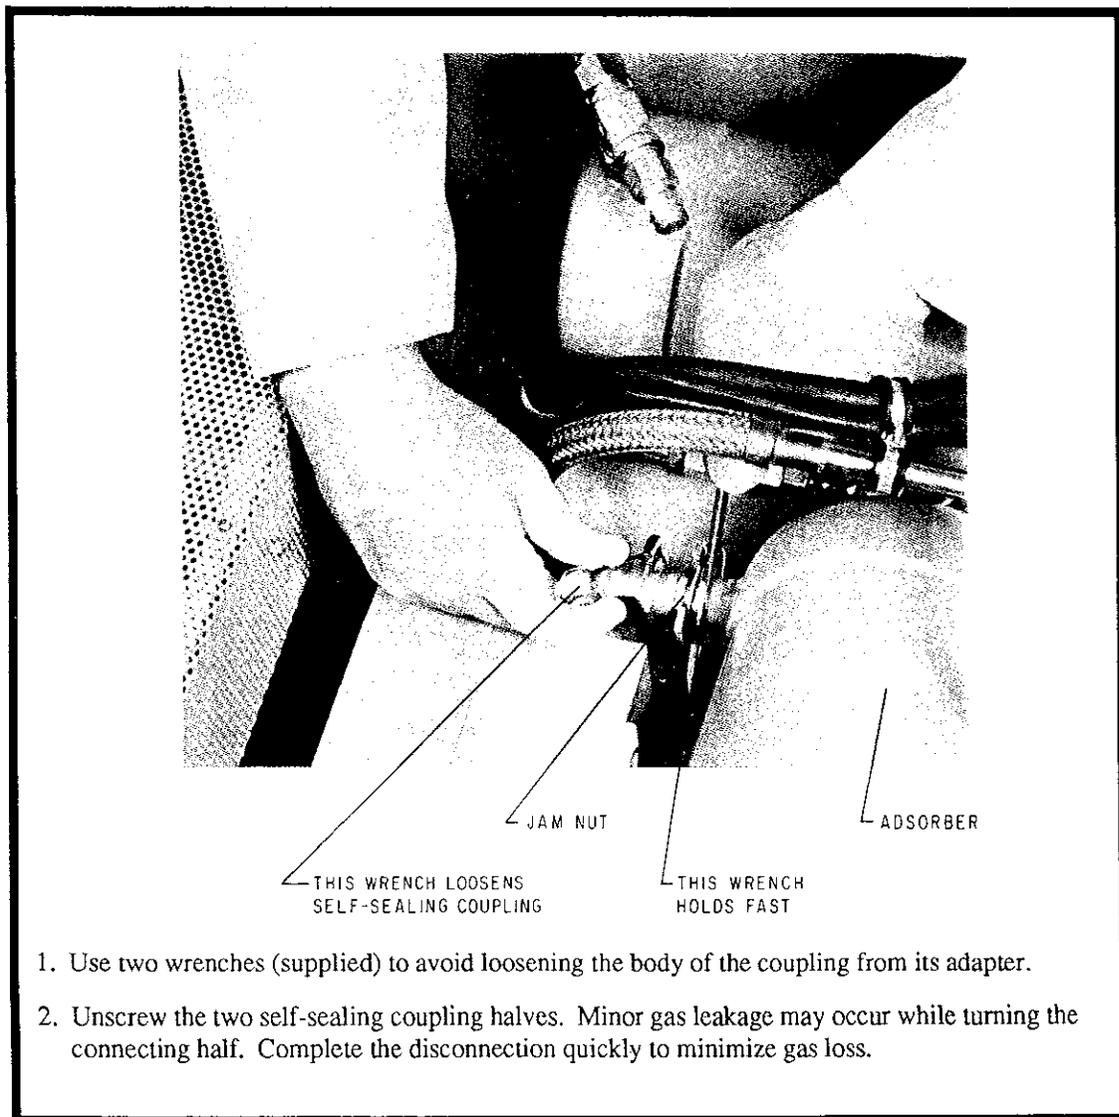
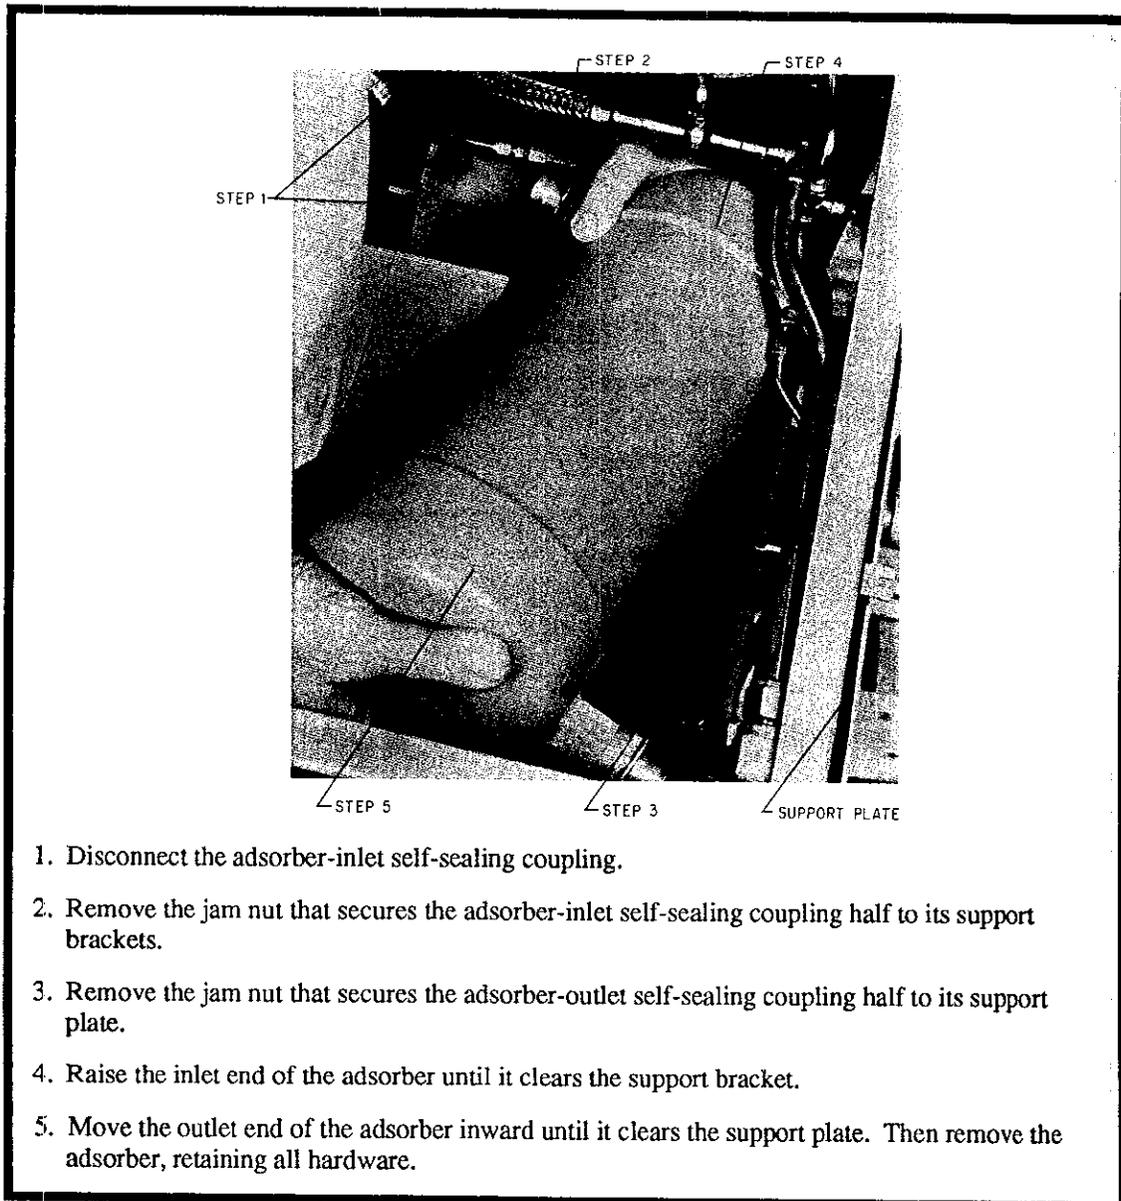
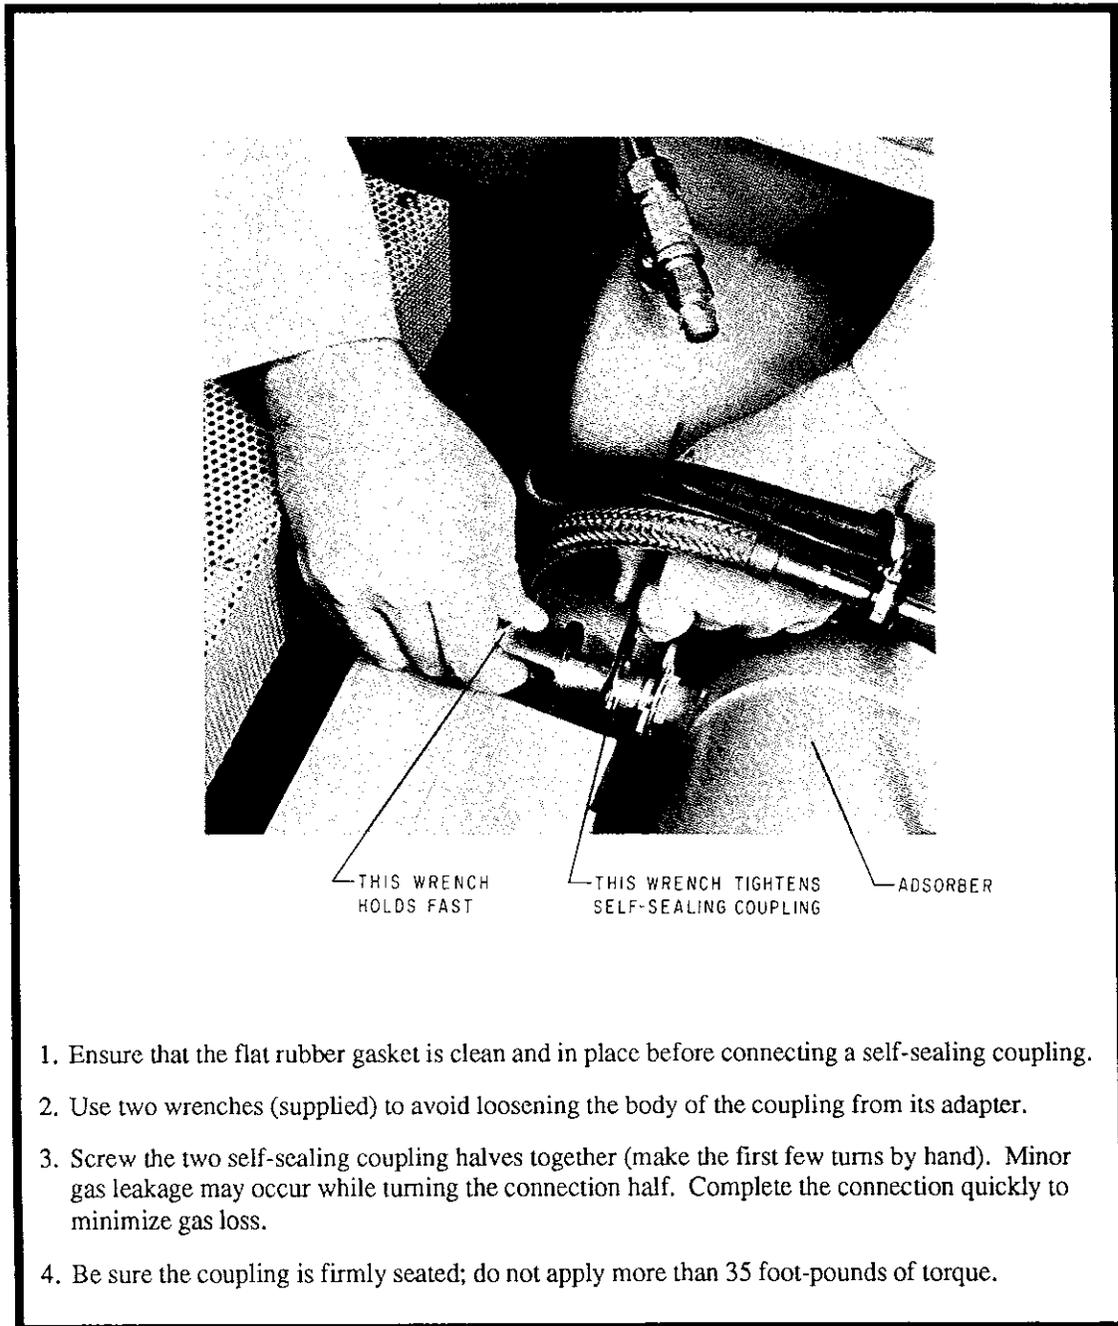

Figure 5.1 Procedure for disconnecting a self-sealing coupling
Figure 5.2 Removing the adsorber from the Model 1020R Compressor
Figure 5.3 Procedure for connecting a self-sealing coupling
9. Remove the rear panel of the compressor and check that the adsorber is connected and confirm that the oil level is visible in the sight glass on the compressor pump. If the adsorber is not connected, connect it following the procedure in Figure 5.3. If no oil is visible due to a level below the sight glass, contact CTI-CRYOGENICS Product Service Department before proceeding.
6. Remove the adsorber from the compressor as shown in Figure 5.2, disconnecting the self-sealing couplings per Figure 5.1.
2. Disconnect the self-sealing couplings (Figure 5.1) from the gas-return and gas-supply connectors at the rear of the compressor.
- b. Install the replacement adsorber by performing the steps in Figure 5.2 in the reverse order. Reconnect the self-sealing couplings per Figure 5.3.
3. Disconnect the self-sealing couplings from the gas return and gas supply connectors at the rear of the compressor as shown in Figure 5.1.
4. Install the oil-primed manifold onto these connectors, attaching the self-sealing couplings as shown in Figure 5.3.
7. After this oil-system priming period, turn OFF the compressor and remove the oil-priming manifold per Figure 5.1